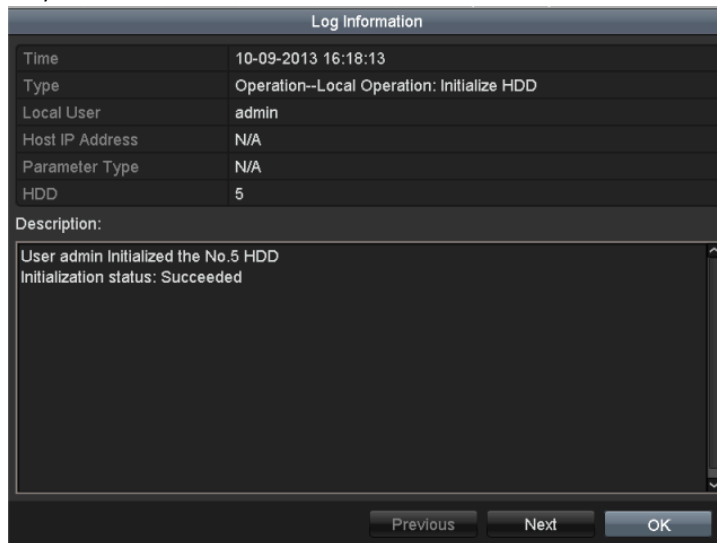

Figure 14. 4 Log Details
6. If you want to export the log files, click the **Export** button to enter the Export menu, as shown in *Figure 14. 4 Log Details*.